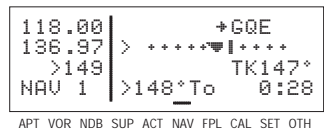

Figure 4-103
4. Press **[ENT]** to approve the waypoint page and activate the waypoint (figure 4-103). The selected course does not change, therefore this method does not center the D-Bar like a Direct To operation does.